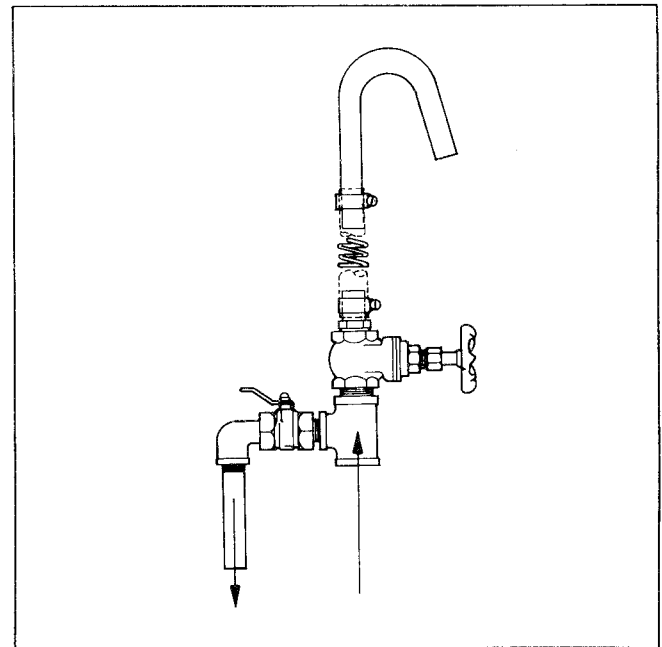

Figure 7. Type B2GV System
- c. Type B2GV By-Pass (Figure 7):** Same as B2 except gate valve substituted for pinch valve.